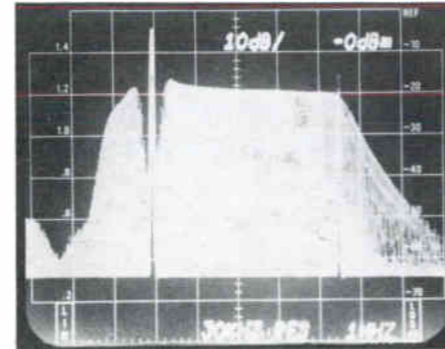

Figure 13. Non-Synchronous Sideband Analysis Using A Sweep Generator (1 MHz/DIV).
6. The results will be similar to those observed in Figures 13 and 14.